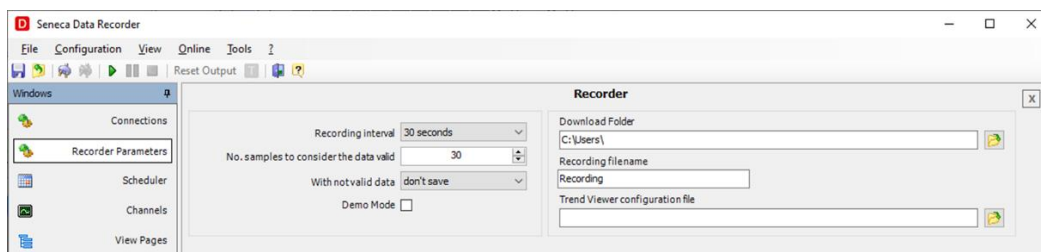

Figure 5. Recorder parameters
- the sampling interval (minimum 1 second, maximum 30 minutes) (**Figure 5 page 14**);
- the path in which to save the database with the recorded data and the name to be assigned to the database (**Figure 5 page 14**);